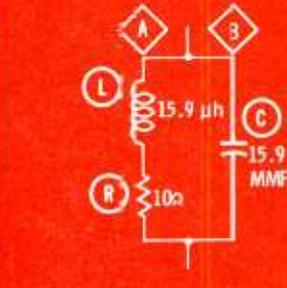

Fig. 2. Resonant circuit with branches labeled. Resonant frequency is 10 mc.
If we assign values to the circuit components as in Fig. 2, the value of Z for the parallel circuit at resonance (10 mc) can be determined. X_L at 10 mc is 1,000 ohms.
If the impedance of a parallel tuned circuit must be determined at any frequency other than resonance, a different approach must be used. Then we must consider the impedance of each branch and compute as for resistors in parallel. The two separate branches are labeled A and B in Fig. 2 and the combined or total impedance may be found by the formula:
Let's calculate the impedance of the parallel tuned circuit in Fig. 2 at 10 mc, 11 mc and 9 mc to familiarize ourselves with the change in impedance at frequencies away from resonance. At 10 mc, X_L and X_C are 1,000 ohms each, so from equation (12) we have: